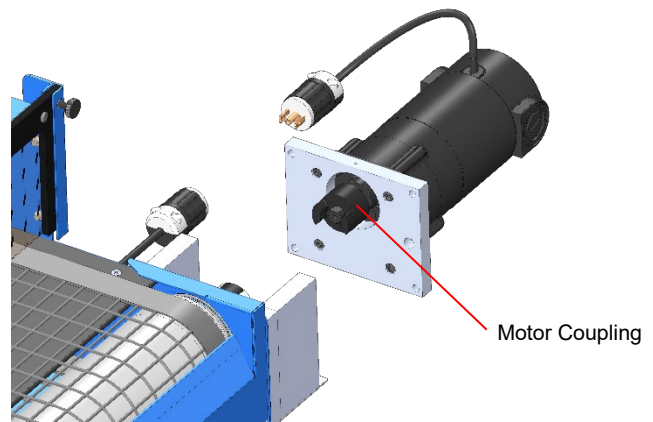

Figure 9. Slide Motor Coupling Over Motor Shaft
3. Slide Motor Coupling onto the Motor shaft, but do not tighten the 1/4-20 x 1/2" set screw (Figure 9).